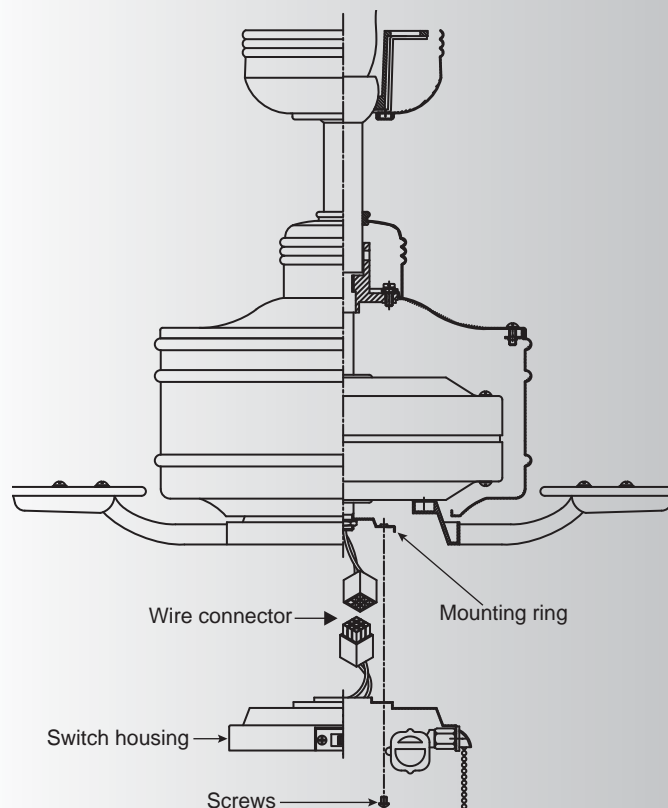

Fig. 15
Step 2. Loosen two screws on the mounting ring attached to the motor shaft and "remove" and save the third screw. (Fig. 15)
Step 3. Place the key holes on the switch housing over the 2 screws previously loosened from the mounting ring, turn switch housing until it locks in place at the narrow section of the key holes. Secure by tightening the 2 screws previously loosened and the one previously removed. (Fig. 15)